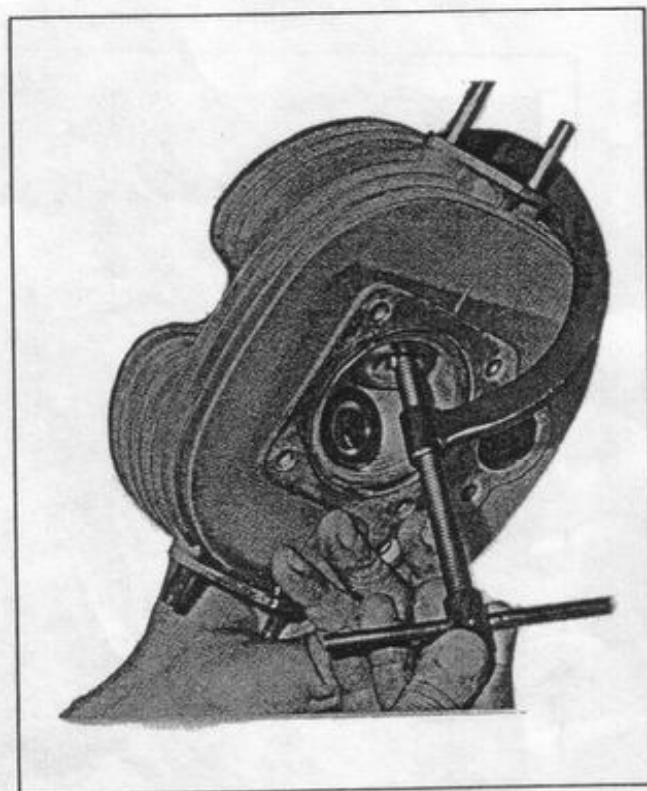

Figure 27.
- a. Use spring compressor RR to compress valve springs and remove the valve cotters (keepers) as shown in Figure 27.